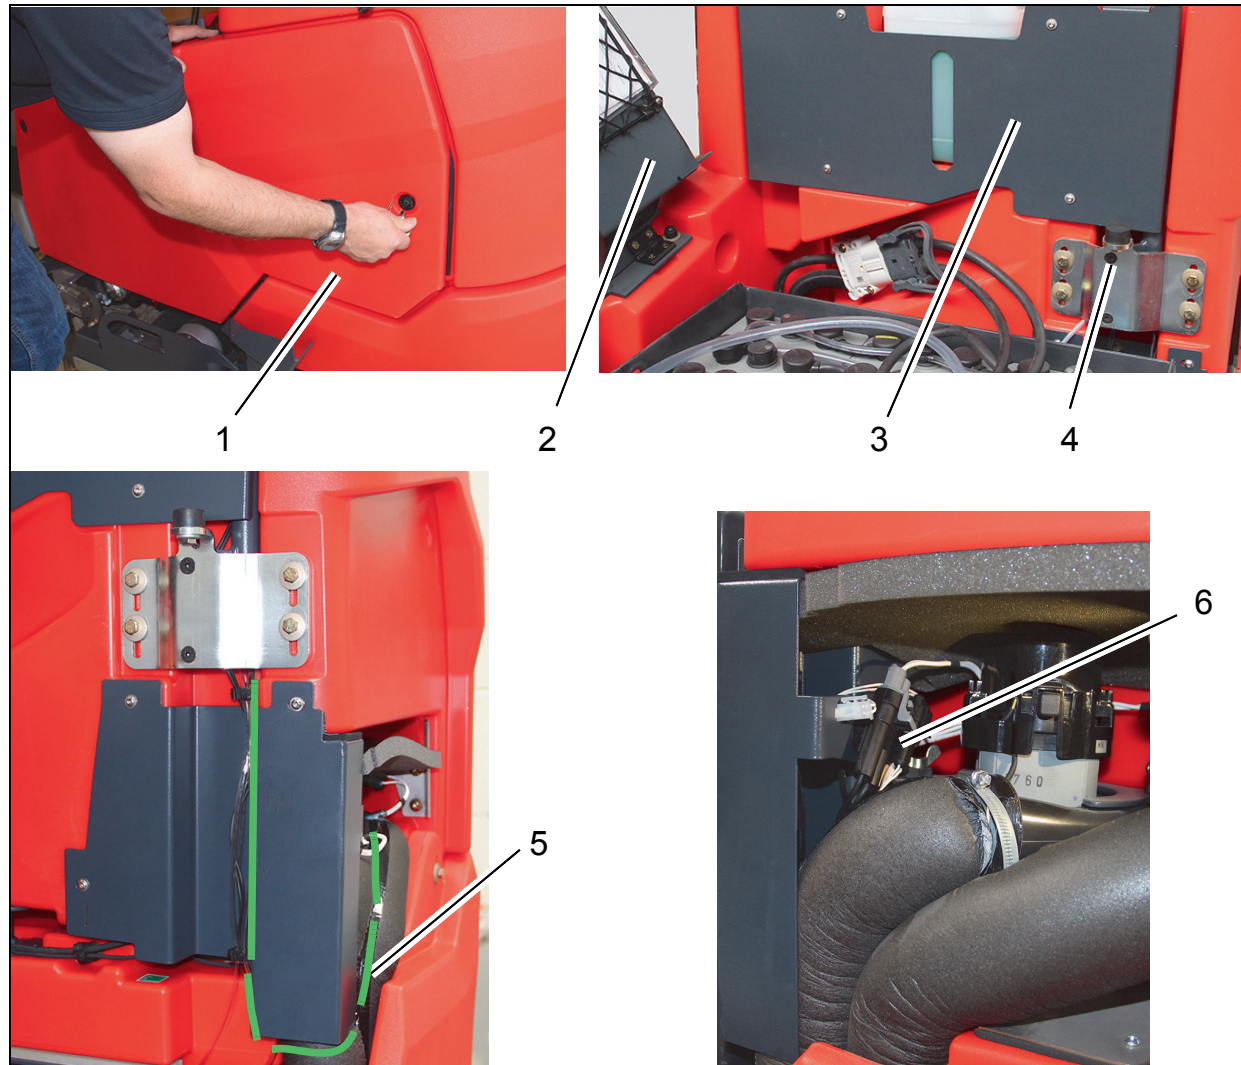

Fig. 2
1. Remove side panelling with provided wrench (Fig. 2/1).
2. Swivel seat console upwards as far as it will go (Fig. 2/2).
3. Remove cover (Fig. 2/3).
4. Unscrew holder (Fig. 2/4).
6. Fit holder (Fig. 2/4) so that the seat console is straight when it is swivelled down!
7. Fit the cover (Fig. 2/3).
8. First lead the cable of cable loom W 65 on the outside along the cover plate, then lead beneath the cover plate into the suction turbine area (Fig. 2/5).
9. Connect plug X65 of cable loom W 65 to plug of W 3 with the same name. Attach plug to plate with cable ties (Fig. 2/6).